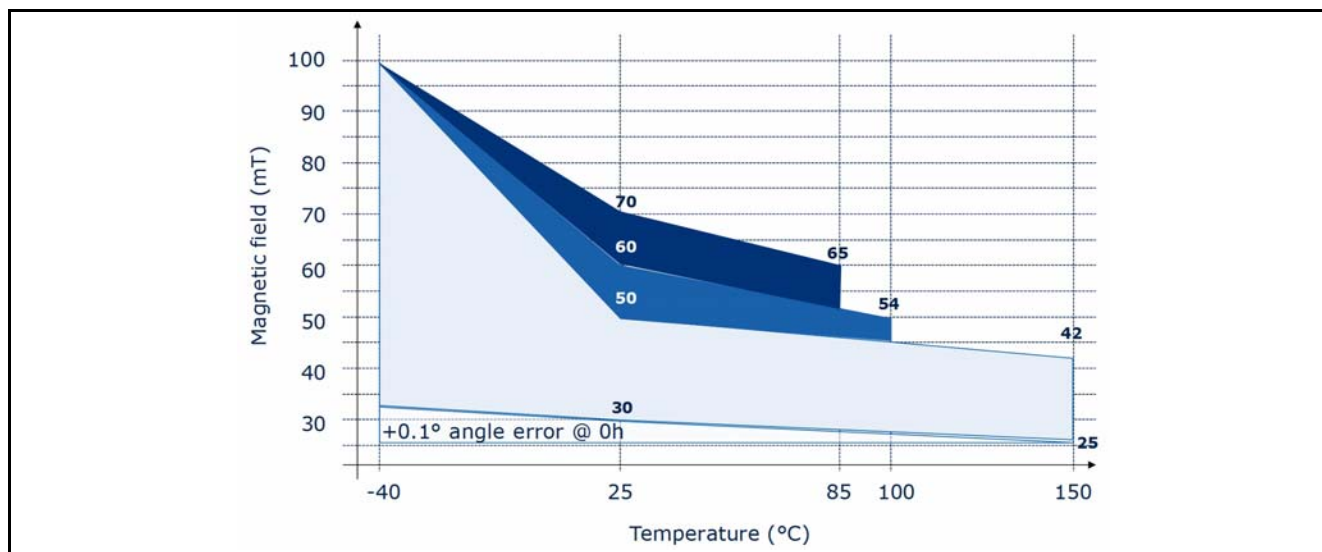

Figure 7 Magnet performance (ambient temperature)
5) See Figure 7
The field strength of a magnet can be selected within the colored area in Figure 7. By limitation of the junction temperature, a higher magnetic field can be applied. In case of a maximum temperature $T_J = 100^{\circ}\text{C}$ a magnet with up to 60mT at $T_A = 25^{\circ}\text{C}$ is allowed.